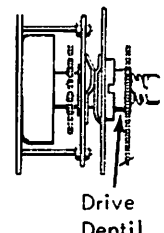

FIGURE 3
4. **DRIVE END:** Drop Weight will fall and disengage Drive Dentil as shown in Figure 3. Curtain should close smoothly at less than 2 feet per second. Bottom Bar should rest on floor.